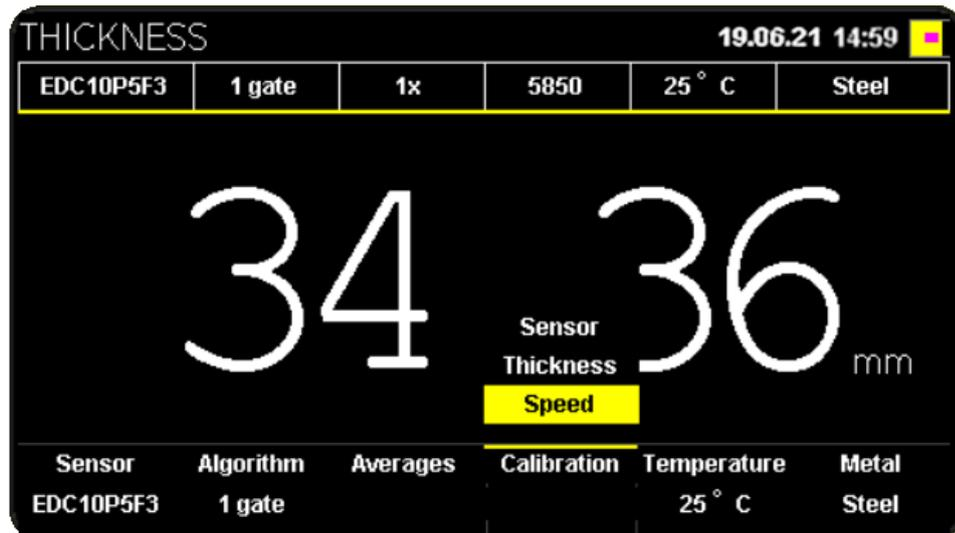

Figure 2.4 – Context ("OK") menu. The "Calibration" item
2.5.1.2 To calibrate the transducer, open the "Calibration" Context menu of the "Thickness" or "A-scan" window (Figure 2.4) by pressing the  button.